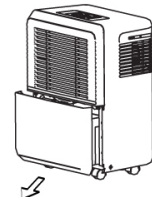

Fig. 8
- Slowly pull out the bucket. Grip the handles securely, and carefully pull the bucket straight out of the unit so the water does not spill. Do not set the bucket on the floor because the bottom of the bucket is uneven, which may cause the bucket to tip and the water to spill. (Fig. 8).